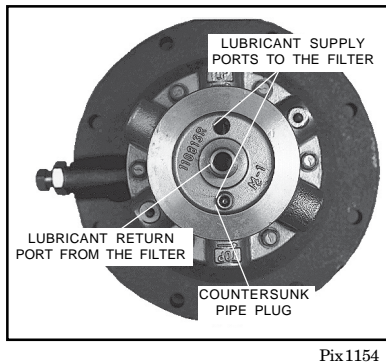

Fig. 5-2 Relocating Countersunk Pipe Plug Pix 1154
Step 4) Remove the countersunk pipe plug* from the lubricant pump housing and relocate it in the opposite (bottom) hole. (See **Fig. 5-2, Relocating Countersunk Pipe Plug**)